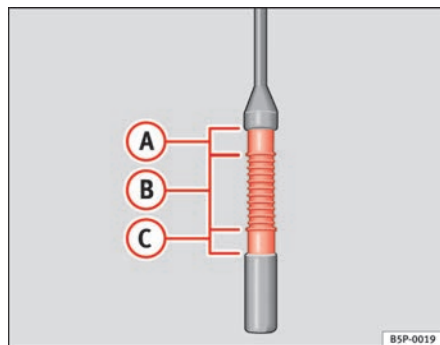

Fig. 163 Engine oil dipstick.
- Then pull it out once more and check the oil level ⇒ **fig. 163**. Top up with engine oil if necessary.